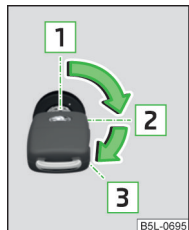

Fig. 129
Positions of the vehicle key in the ignition lock » Fig. 129
- Turn key to position **1** » Fig. 129 on page 114.